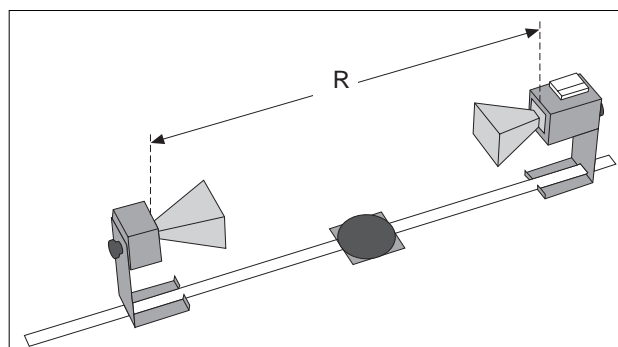
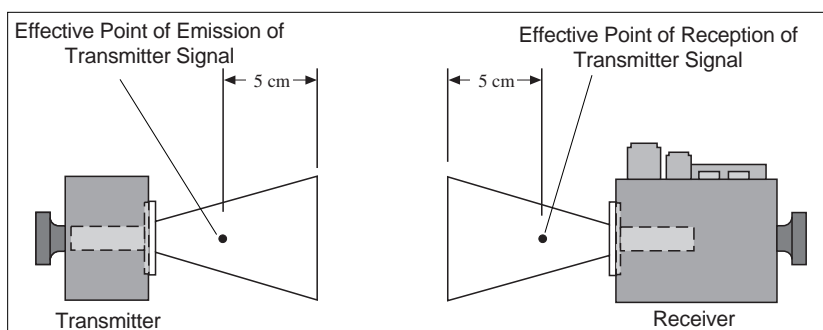

Figure 1.1 Equipment Setup
Figure 1.2 Equipment Setup
- ① Arrange the Transmitter and Receiver on the Goniometer as shown in Figure 1.1 with the Transmitter attached to the fixed arm. Be sure to adjust both Transmitter and Receiver to the same polarity—the horns should have the same orientation, as shown.
- ② Plug in the Transmitter and turn the INTENSITY selection switch on the Receiver from OFF to 10X. (The LEDs should light up on both units.)
- ③ Adjust the Transmitter and Receiver so the distance between the source diode in the Transmitter and the detector diode in the Receiver (the distance labeled **R** in Figure 1.1) is 40 cm (see Figure 1.2 for location of points of transmission and reception). The diodes are at the locations marked "T" and "R" on the bases. Adjust the INTENSITY and VARIABLE SENSITIVITY dials on the Receiver so that the meter reads 1.0 (full scale).